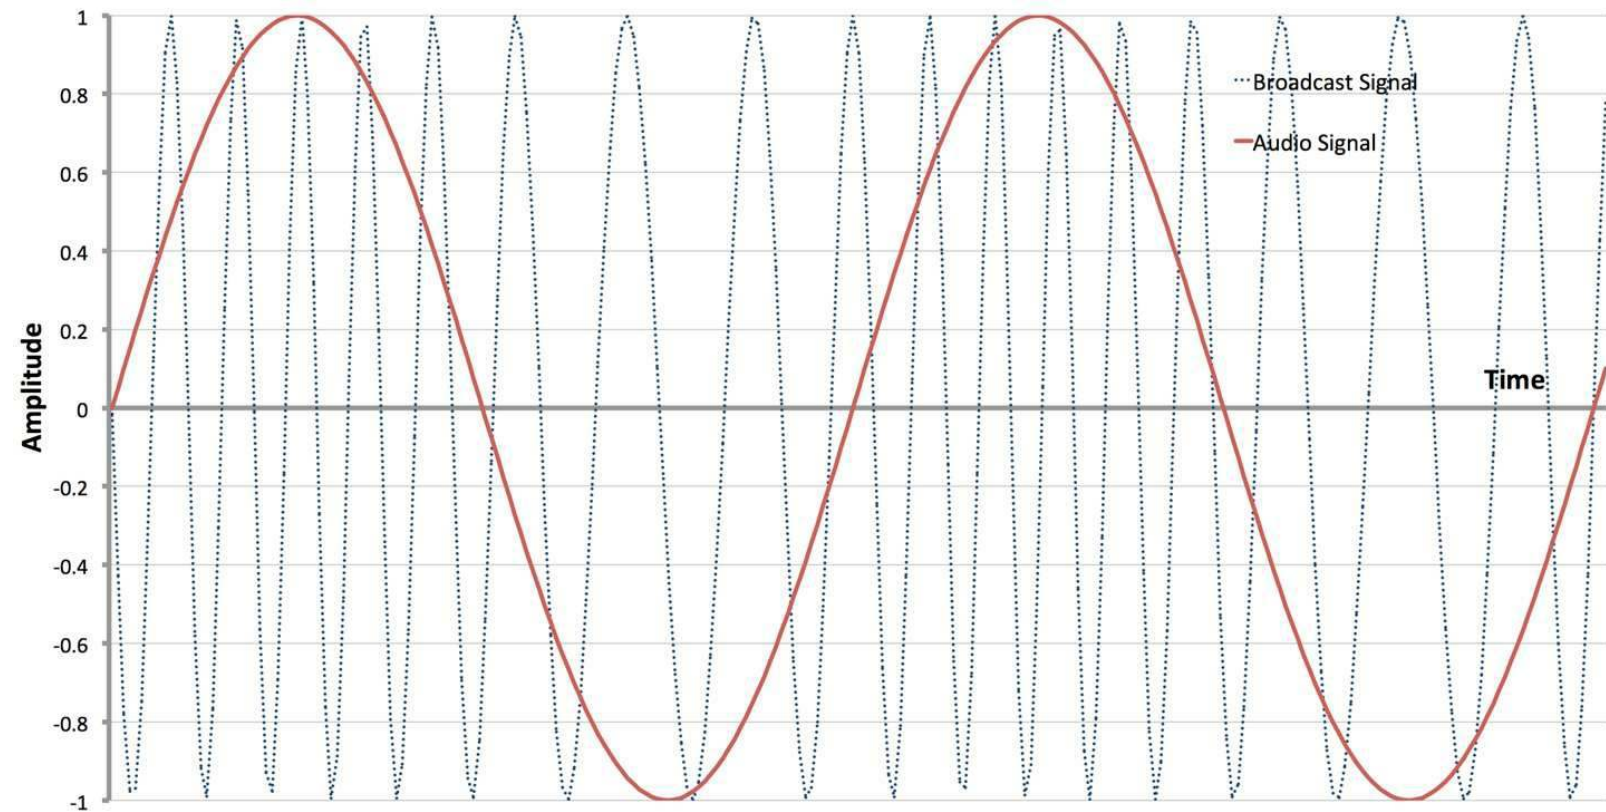

Figure 19-4. Frequency Modulation
Frequency modulation (FM) improves on AM by varying the frequency of the carrier rather than its amplitude. This improves the quality of the sound being broadcast, as the frequency is immune from changes due to atmospheric conditions or movement of the receiver. **Figure 19-4** shows how an audio signal would be used to modulate a carrier.